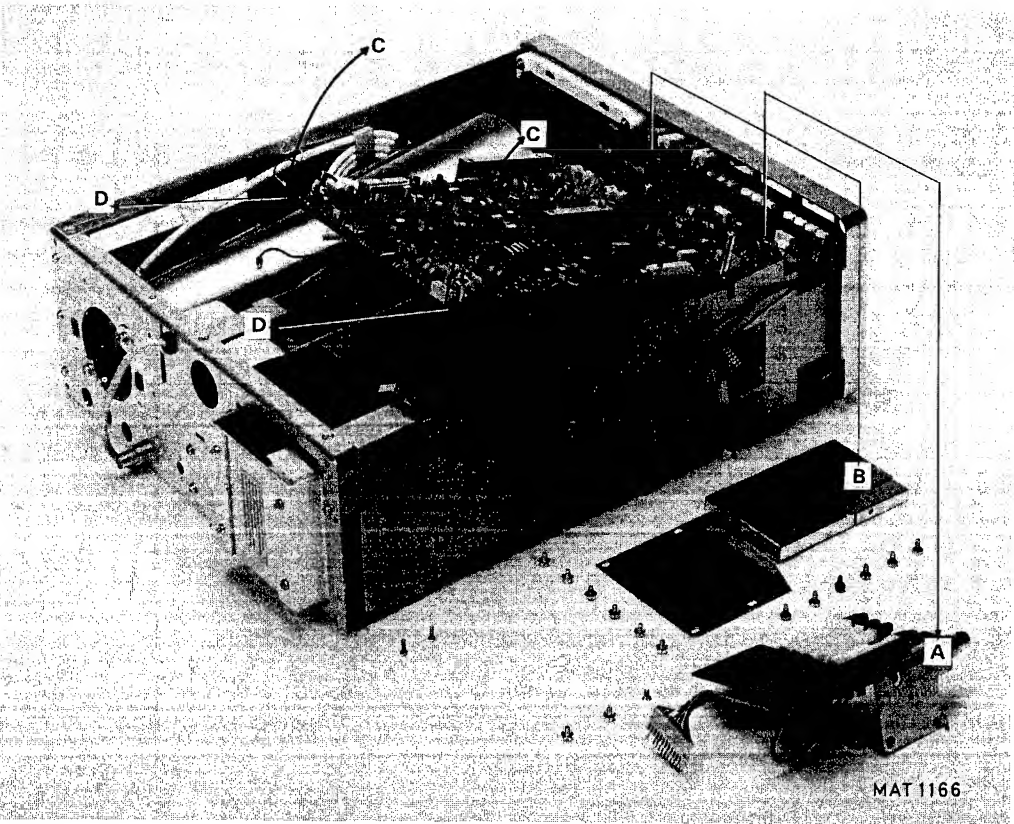

Fig. 6.5. Removal of pre-ampl. and trigger unit
6.2.7.1. Removing the trigger source unit (see fig. 6.5.A)
- Remove the trigger source unit as indicated in chapter 6.2.7.1. (see also fig. 6.5.A).
- Remove the metal screening plate from the attenuator part. This plate is attached by means of 6 selftapping screws (see also fig. 6.5.B).
- Lift the unit in the direction indicated in fig. 6.5.C.
- Take the unit out of the instrument in the direction indicated in fig. 6.5.D).